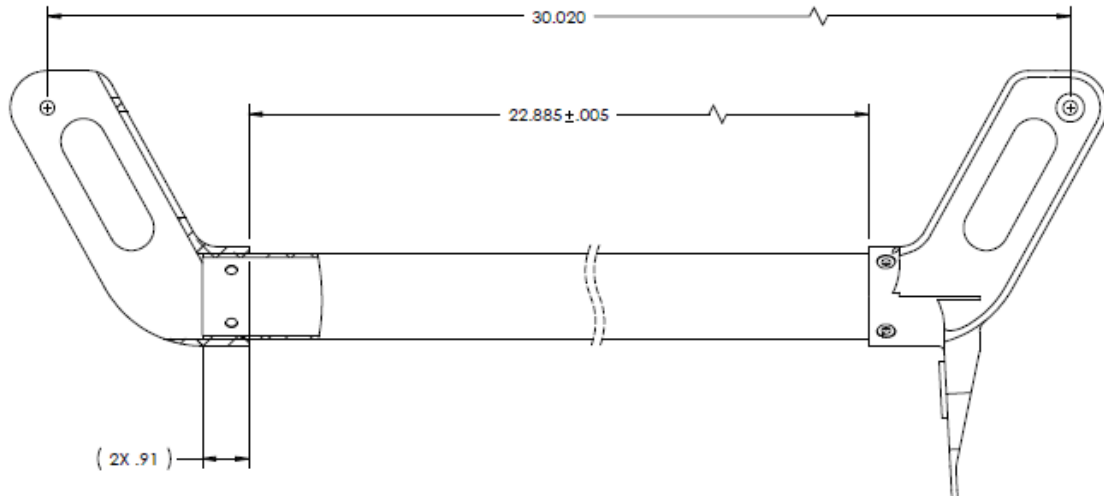

Figure 1 – Torque Tube Placement
12. Assemble the new torque tube, the forward mast, and the aft mast as shown in Figure 1.
13. Match drill the torque tube to  $\text{Ø}.176\text{''}-.180\text{''}$  using the existing holes in the masts. Ensure the masts are 22.885" apart, edge to edge as shown in Figure 1.